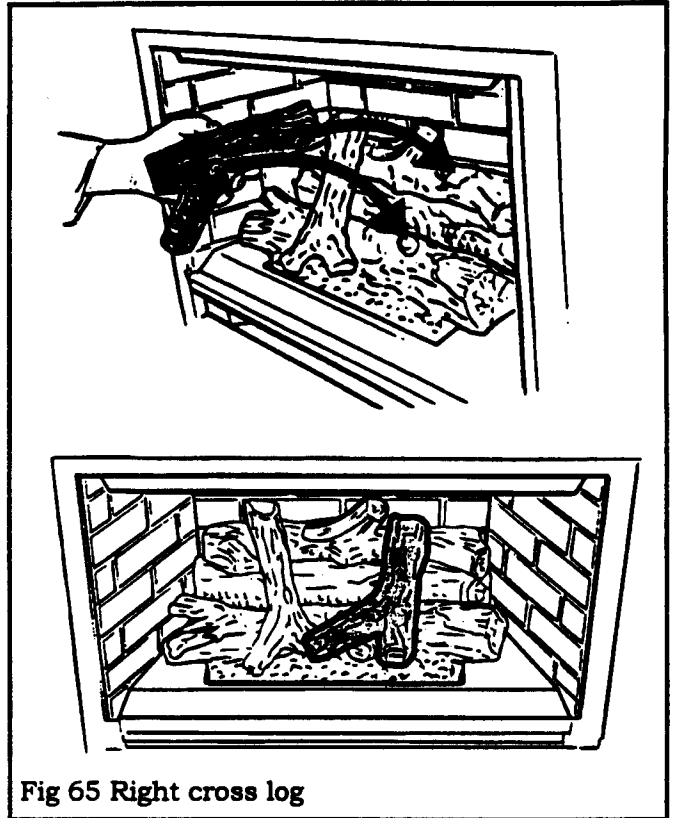

Fig 65 Right cross log
18.7 Place the right front log (stamped "R" underneath) over the other logs. Locate it over the peg in the front log and into the channel in the rear log (fig. 65).